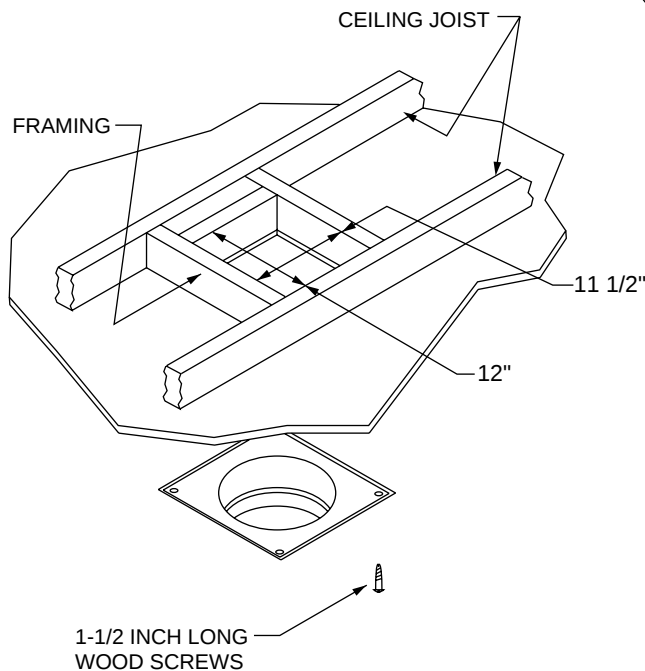
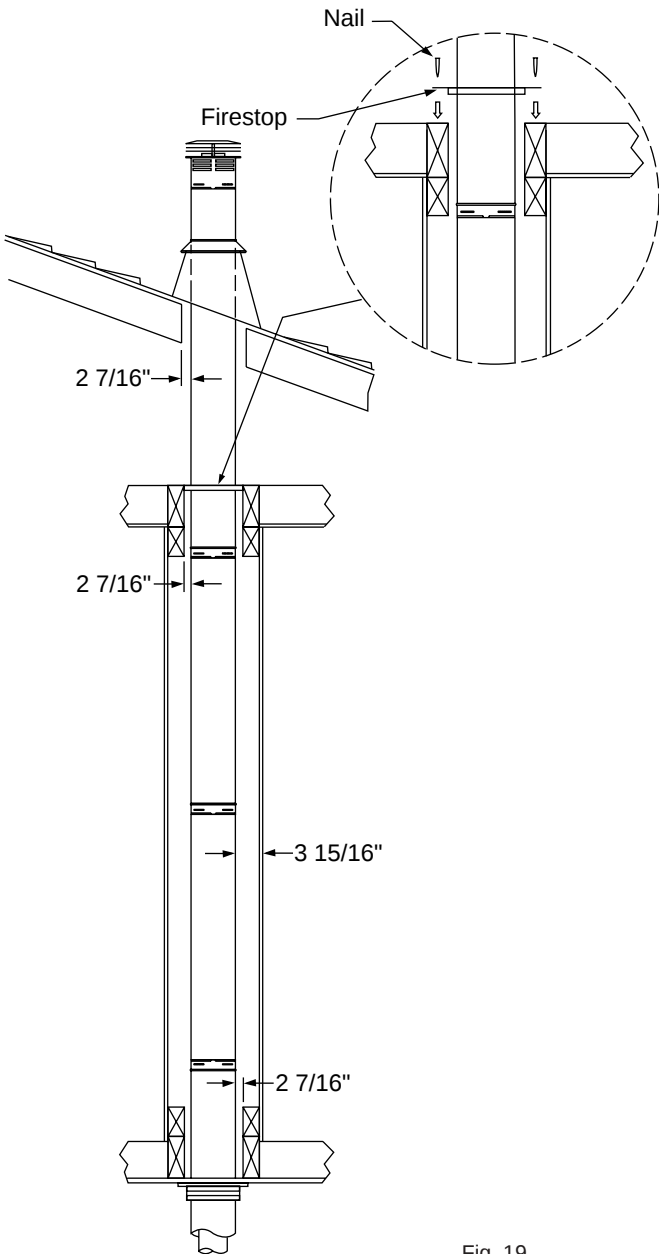

Fig. 16
Fig. 19
To install the round support box/wall thimble in a flat ceiling, cut a 11 1/2" x 12" hole in the ceiling, centered on the hole drilled in Step 1. Frame the hole as shown in Figure 16.
- (1) For multistory vertical installations, a Ceiling Firestop is required at the second floor, and any subsequent floors. (Fig. 19) The opening should be framed to 11-1/2-inch x 12-inch inside dimensions, in the same manner as shown in Figure 16, page 11.
- (2) Any occupied areas above the first floor, including closets and storage spaces, which the vertical vent passes through, must be enclosed. The enclosure may be framed and sheetrocked with standard construction materials, see page 8 for minimum allowable clearance between the outside of the vent pipe, and the combustible surfaces of the enclosure. Do not fill any of the required air spaces with insulation.